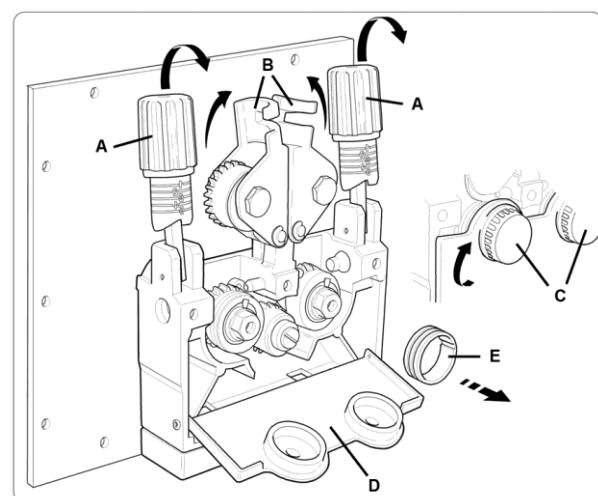

fig. 3
3.2 Replacing the rollers (Fig. 3).